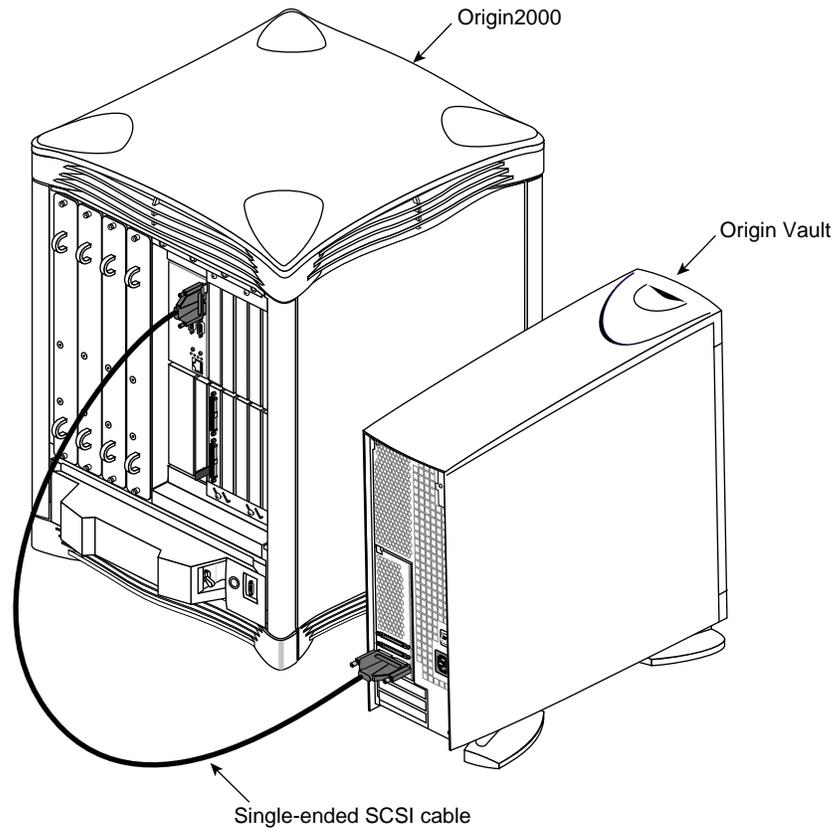

Figure 3-6 Origin Vault and Origin2000 Host
4. Attach the other end of the SCSI cable to the host system's single-ended SCSI connector (see Figure 3-6 for an example). You may also make the connection to channel 0 on the Ultra SCSI XIO board or PCI option board (PCI-SCSI-Q-SE-1P).